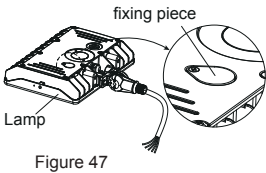

Figure 47
Step 3: Once the color temperature is confirmed, return the fixing piece back to the original position and tighten the screw to lock the fixing piece(Figure 47).